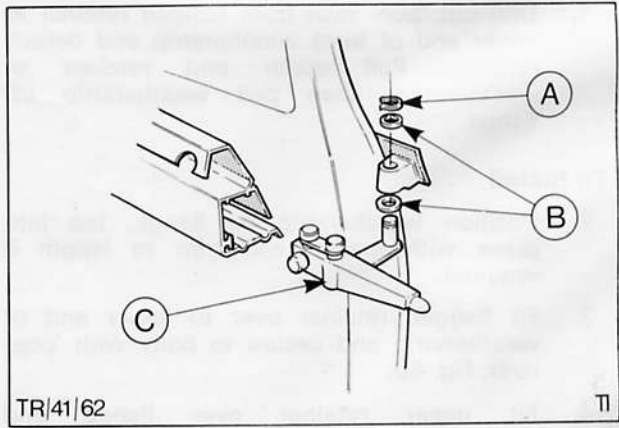

Fig. 43 Circlip and washer assembly middle roller arm spindle
4. Open door and remove circlip and washer from middle roller arm spindle, Fig. 43.
8. Check that washer is in place on middle roller arm spindle Fig. 43 'B'. Locate roller in guide rail and mount door on roller arm spindle.
11. Open door and secure middle roller arm to door link with circlip and washer, Fig. 43.